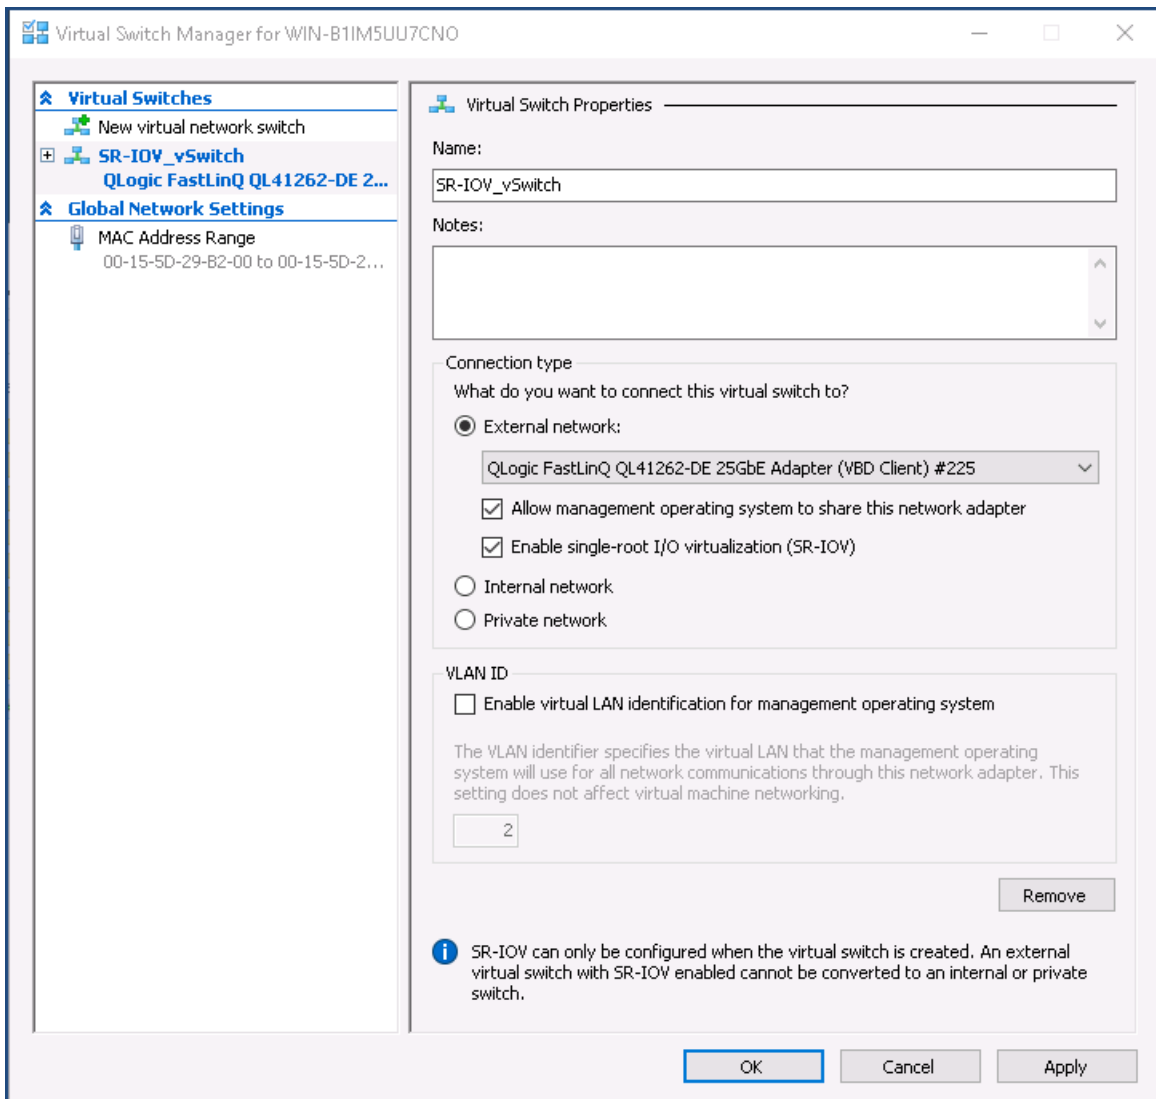

Figure 12-4. Virtual Switch Manager: Enabling SR-IOV
10. To create a Virtual Machine Switch (vSwitch) with SR-IOV (Figure 12-4 on page 235):